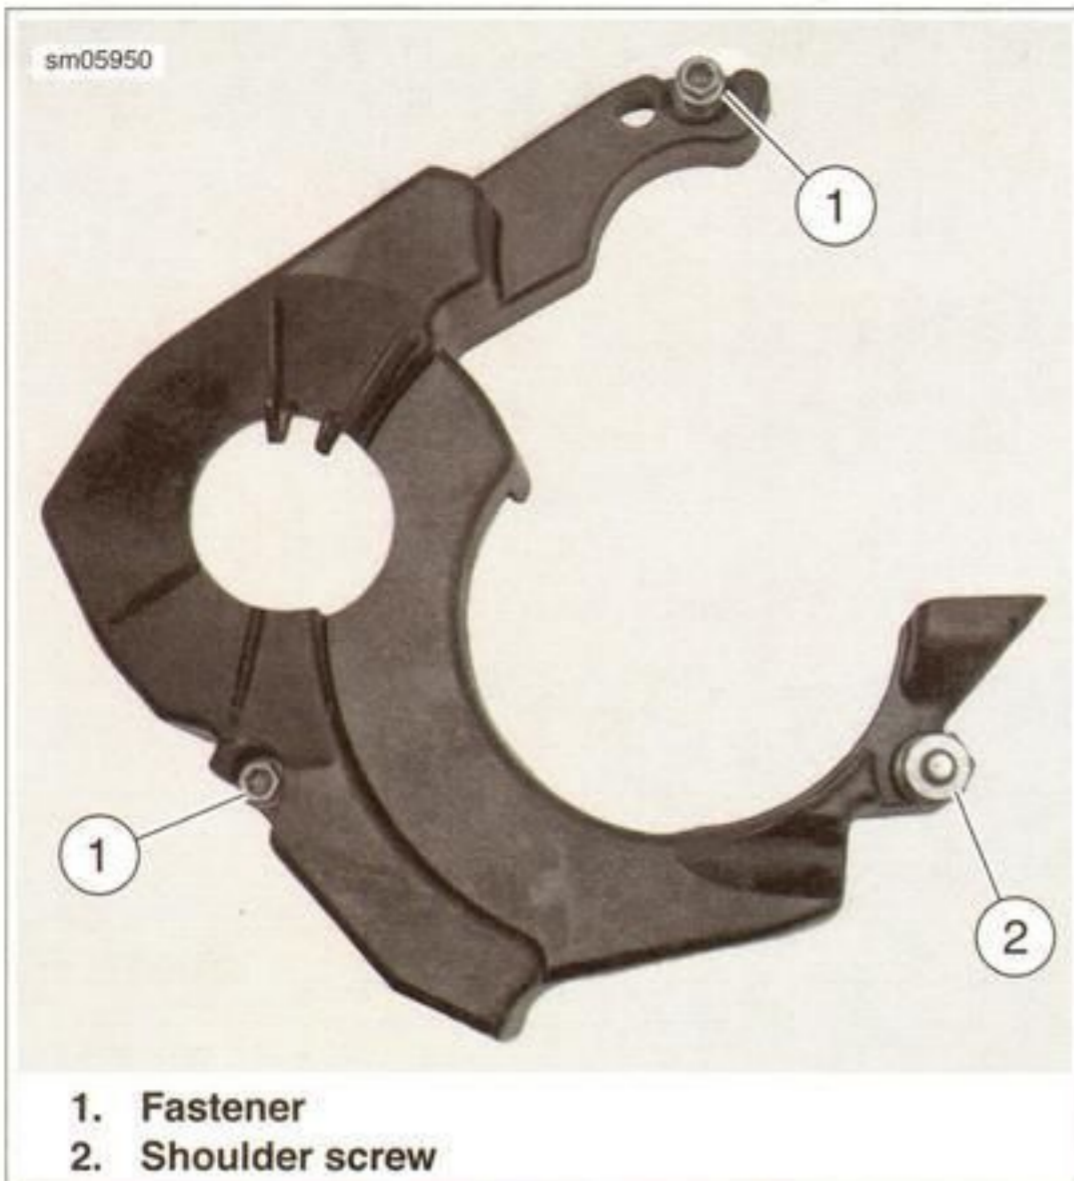

Figure 3-160. Friction Clutch Cover
3. See Figure 3-160. Place friction clutch cover in position over friction clutch.
4. Install fasteners (1) and shoulder screw (2). Tighten fasteners and shoulder screw to 11 Nm (97 in-lbs).